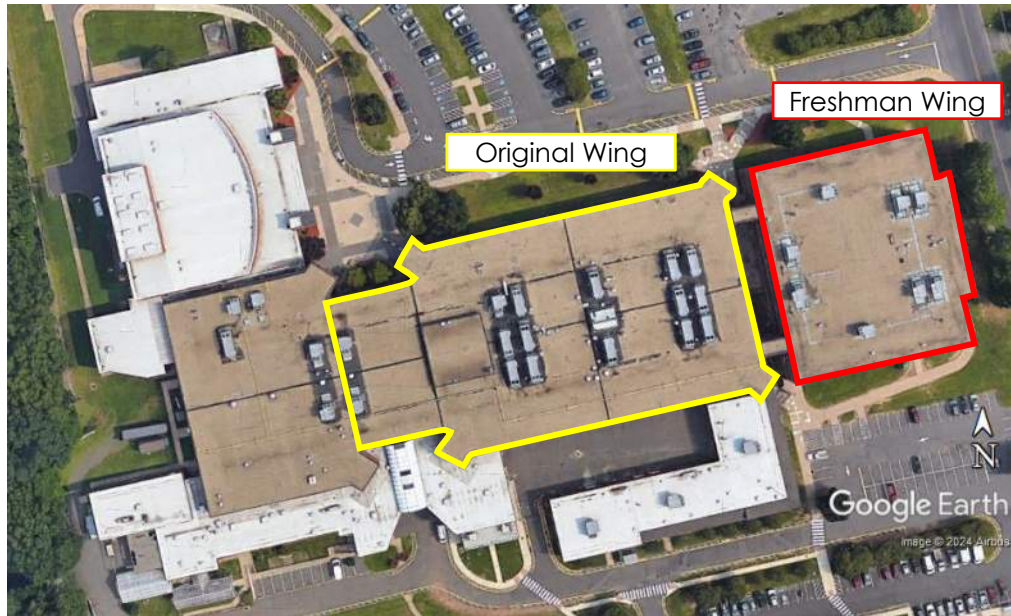

Figure 1 – Overall Aerial View, courtesy Google Earth
On November 20, 2024, Mr. Chris Zmuda, P.E. Project Engineer with Cianci Engineering, LLC, made a site visit and met with Mr. Thomas Hibbard, as well as Skip, with Southington High School who aided with access to areas within the school. Figure 1, below, provides an overall, aerial rendering of the subject structure. It is our understanding that two separate roof areas; the freshman wing and a portion of the original school and a portion of the original structure above a library (indicated in red and yellow, respectively, in the figure) are areas where solar panels are proposed to be installed.
We were provided with two sets of drawings, including a partial set of 1971 drawings for the original construction of the school, dated November 15, 1971. A list of drawings on the cover sheet states that the provided sheets do not include "Large Sheets", such as sheets A-1 through A-26 and S-1 through S-11. The provided "Small Sheets" do not provide framing or architectural plans, which are likely in the not provided sets of "Large Sheets". A 1984 set of drawings for Additions and Alterations were also provided, which is not related to the areas where the proposed array(s) are to be located. It is noted that the "Freshman Wing" portion shown in Figure 1 is not shown as part of the existing building on the 1984 set of drawings, therefore, the Freshman Wing was constructed subsequent to 1984. According to Google Earth Pro history images, the freshman wing was not constructed as of the image date of March 30, 1991, but is shown on the UConn Air Photo Archive Image Date April 18, 1995 (reference Enclosure (1) for the images). Therefore, the freshman wing was constructed at some point between 1991 and 1995. According to the website for Southington
- Remove the existing built-up roofing system and insulation down to the existing metal deck in the two areas noted in Figure 1 consisting of the freshman wing and the original portion of the building.